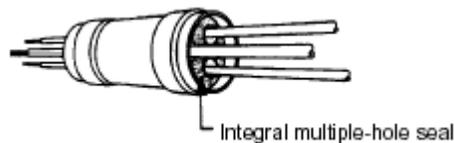

Figure 20-23 Multiple Wires
4. Insert the multiple wires coming from one direction through the integral seal and sleeve, one wire per hole, as shown in Figure 20-23.